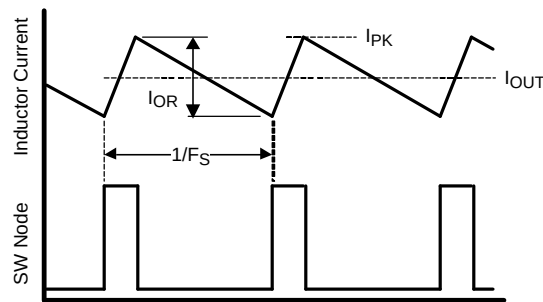

Figure 27. Inductor Current Waveform
- **L1:** The main parameter controlled by the inductor value is the current ripple amplitude ( $I_{OR}$ ). See Figure 27. The minimum load current for continuous conduction mode is used to determine the maximum allowable ripple such that the inductor current's lower peak does not fall below 0 mA. Continuous conduction mode operation at minimum load current is not a requirement of the LM25085A, but serves as a guideline for selecting L1. For this example, the maximum ripple current is: